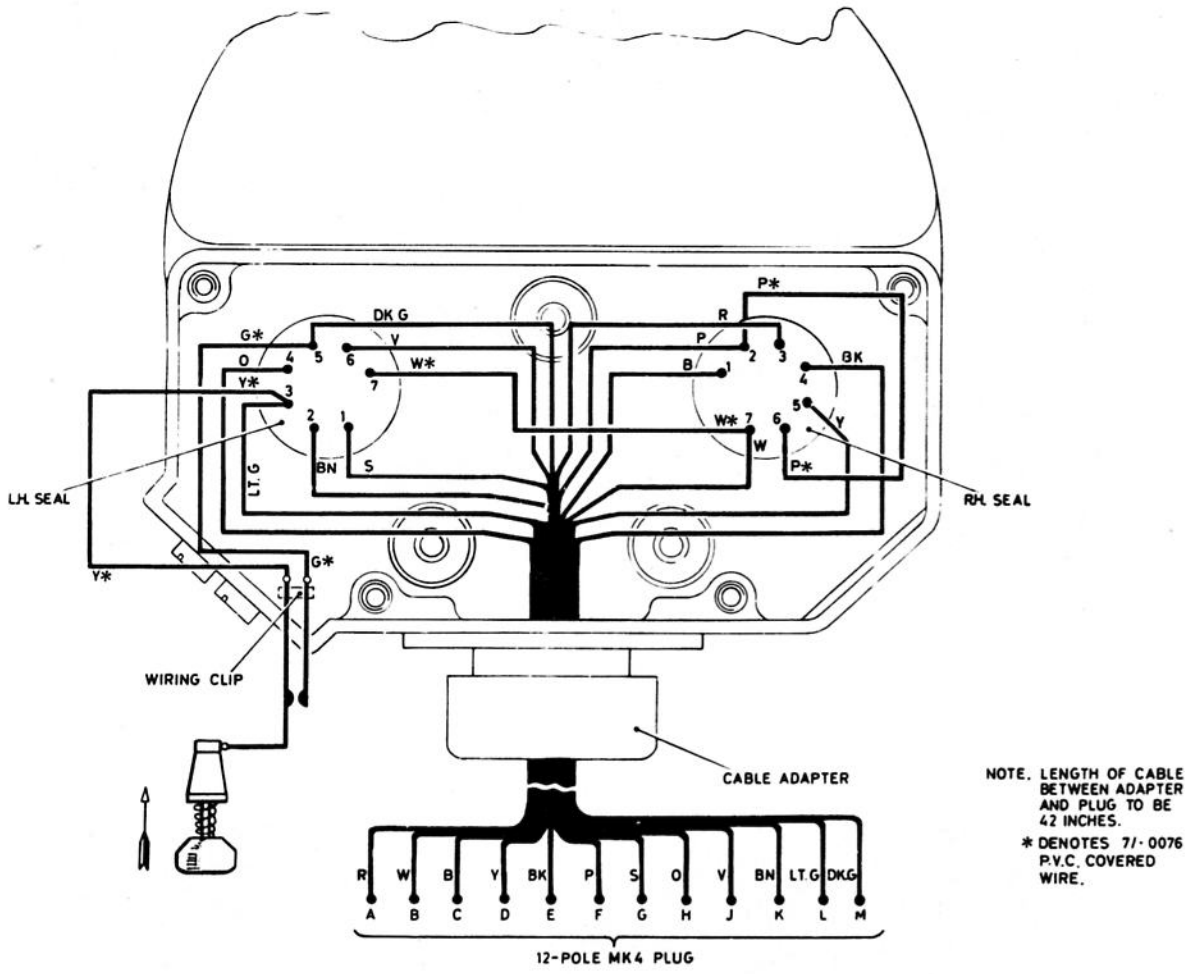

Fig. 3. Wiring diagram for backplate
- (1) Fit the relay to the backplate with two 6BA x $\frac{3}{16}$ in. ch.hd. stainless steel screws.
- (2) Complete the wiring of the gimbal centring and erection relay assemblies in accordance with fig.3.